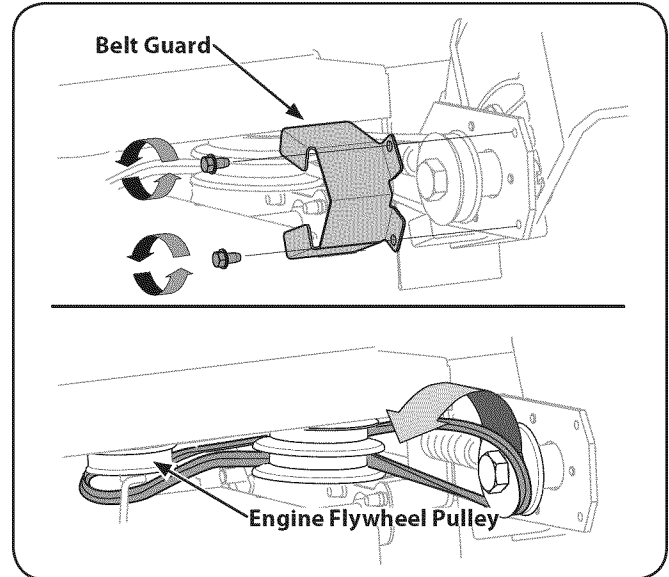

Figure 7-2
3. Remove the spindle sheaves belt guard by removing the two self-tapping screws which secure it to the blade plate assembly. See Fig. 7-2.
4. Carefully remove the belt from off of the pulleys, again making sure to note the orientation of the belt. Discard the belt. See Fig. 7-2.
**NOTE:** Make certain that the "V" side of the belt is seated into the top pulley and the flat side of the belt is seated into the bottom pulley. See Fig. 7-2.